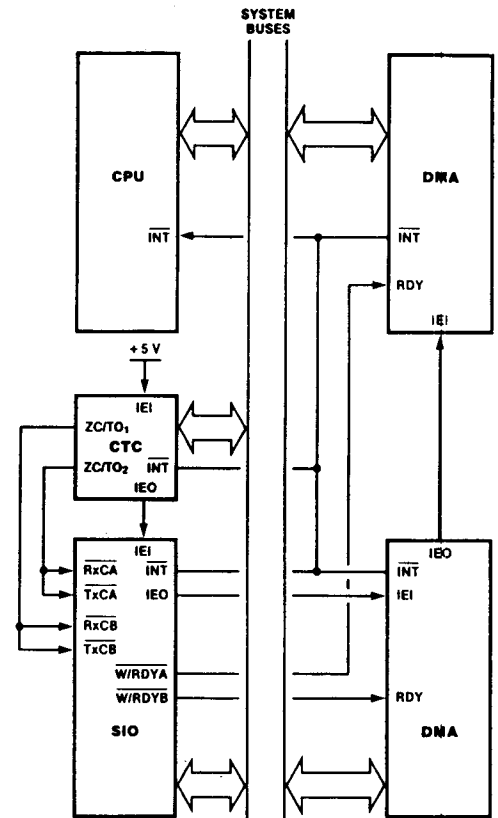

Figure 11. Typical Z80 Environment.
In a Z80 CPU environment (Figure 11), SIO interrupt vectoring is "automatic": the SIO passes its internally-modifiable 8-bit interrupt vector to the CPU, which adds an additional 8 bits from its interrupt-vector (I) register to form the memory address of the interrupt-routine table. This table contains the address of the beginning of the interrupt routine itself. The process entails an indirect transfer of CPU control to the interrupt routine, so that the next instruction executed after an interrupt acknowledge by the CPU is the first instruction of the interrupt routine itself.